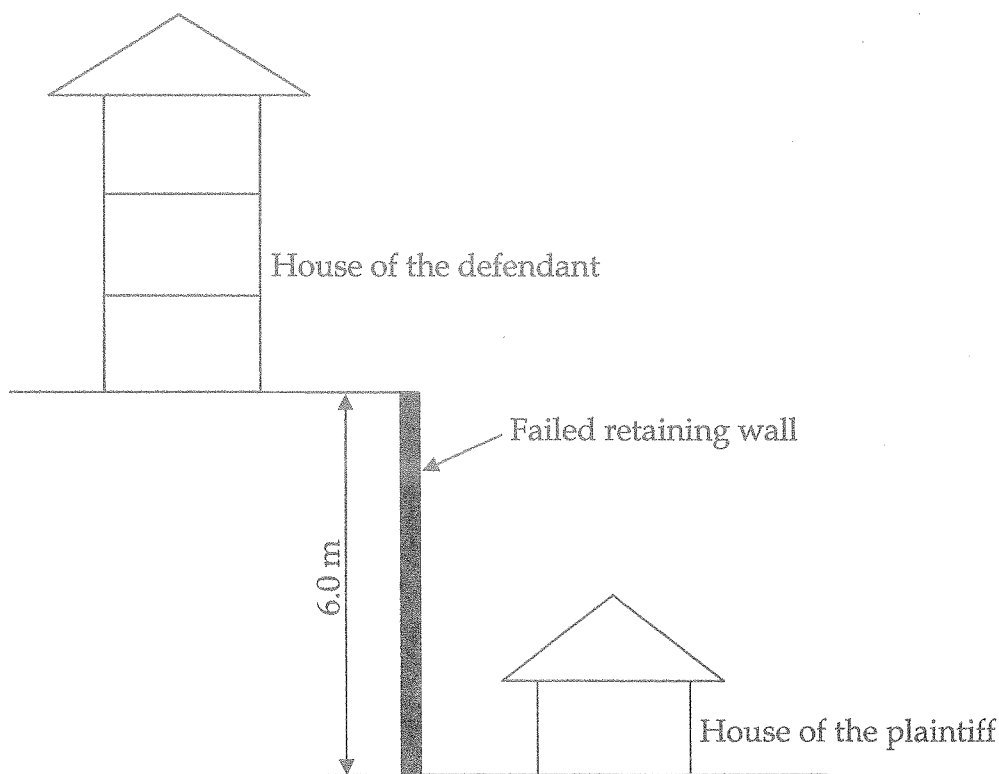

Figure Q2.1 - Cross section of the site
- Q2. There was a collapse of retaining wall at Labuduwa, Karapitiya during December 2012, which caused heavy damaged to the properties. Cross section of the site is shown in Figure Q2.1. Soon after the construction of 6.0 m high retaining wall, back filling was started with the intention of further increasing the area of back yard by the defendant (person who is on the retained side). Few hours after the backfilling, retaining wall was completely failed destroying the properties of the plaintiff (person who is in front of the retaining wall). Later, it was realized that retaining wall was constructed without consulting a qualified engineer and failure was occurred basically due to the poor design.